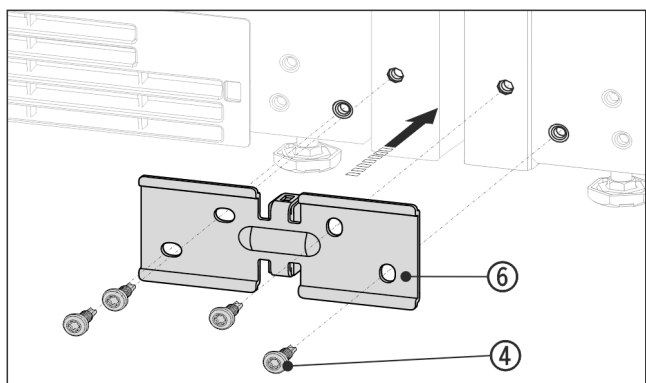

Fig. 14 Example illustration
- ▶ Slide the bracket Fig. 14 (6) with the spacer between the appliances and loosely screw on with 4 screws Fig. 14 (4).